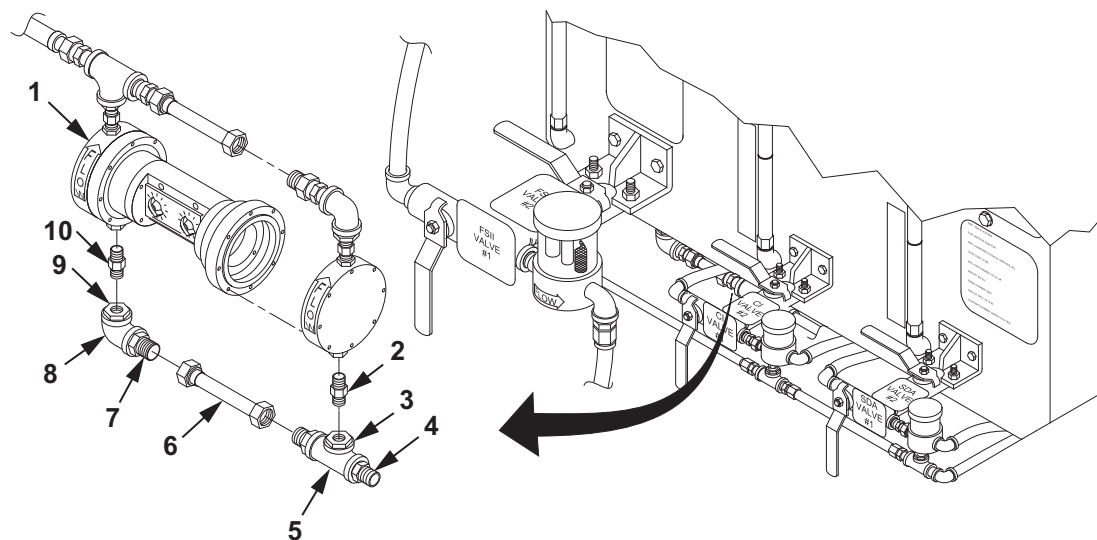

Figure 2. FSII Pump Suction Check Valves Removal.
9. Remove tee assembly (Figure 2, Item 5), tube adapter (Figure 2, Item 4), reducer bushing (Figure 2, Item 3) and suction check valve (Figure 2, Item 2) as an assembly from FSII pump (Figure 2, Item 1).
10. Remove suction check valve (Figure 2, Item 2) from reducer bushing (Figure 2, Item 3). Discard suction check valve (Figure 2, Item 2).
11. Disconnect suction tube (Figure 2, Item 6) from tube adapter (Figure 2, Item 7).
12. Remove 90° elbow (Figure 2, Item 8), tube adapter (Figure 2, Item 7), reducer bushing (Figure 2, Item 9) and suction check valve (Figure 2, Item 10) as an assembly from FSII pump (Figure 2, Item 1).
13. Remove suction check valve (Figure 2, Item 10) from reducer bushing (Figure 2, Item 9). Discard suction check valve (Figure 2, Item 10).